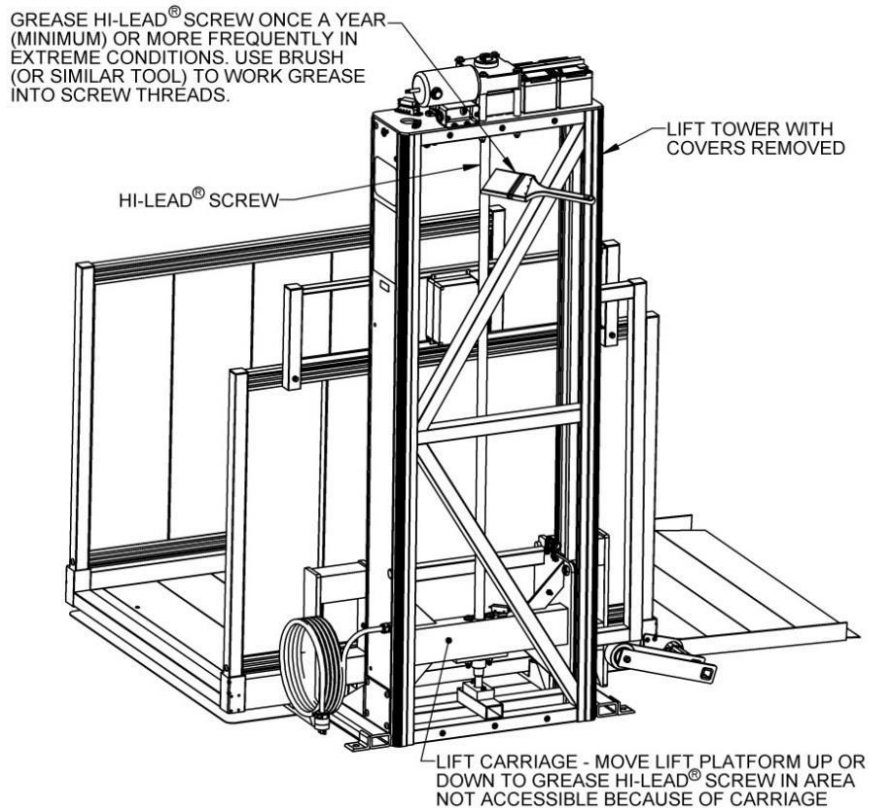

FIG. 21.1
- 21.1.1. The Hi-Lead® Screw (“screw”) drives the lift platform up and down and must be lubricated at minimum once per year or more frequently if the VPL is used in extremely hot or cold locations (FIG. 21.1).
- 21.1.3. Remove either the front or rear cover panel (FIG. 21.1).